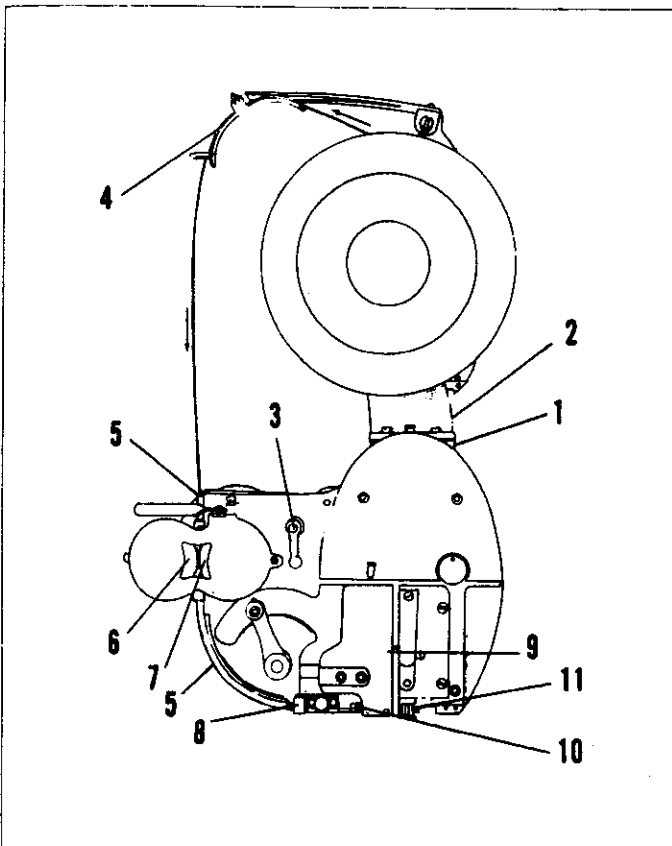

Figure 2
2. Bolt coil holder bracket (Index 2, figure 2) to the head plate casting (Index 1, figure 2).
3. Turn the feed control lever (Index 3, figure 2) **COUNTER CLOCKWISE** and up, to open the wire feed gears (Index 6 & 7, figure 2).
5. Thread the wire down into the upper wire tube (Index 4, figure 2).
6. Thread the wire down into the upper wire tube (Index 5, figure 2) and through the wire feed gears and down through the lower tube (Index 5, figure 2) until the wire is seen at the tube exit.
7. Guide the wire through the wire straightener (Index 8, figure 2) and into the cutter block (Index 9, figure 2) until it passes through the cut off die (Index 10, figure 2).
Adjust Wire Straightener: To make sure that the wire will enter the mandrel (Index 11, figure 2) properly, it may be necessary to adjust the wire straightener (Index 8, figure 2). See adjustment Section K, page 16.